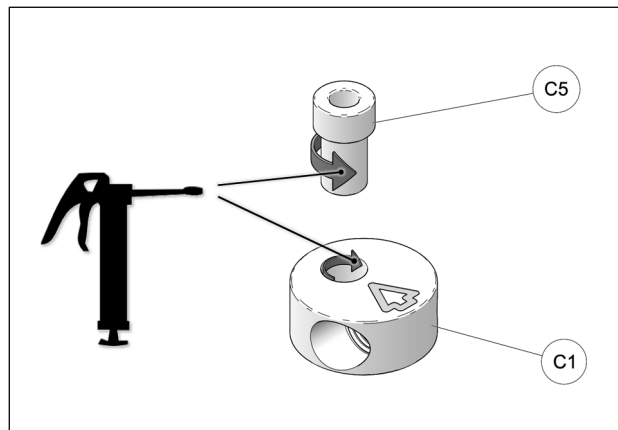

Fig. 16
11. At assembly, apply grease evenly all around step spacer bushing (C5) and in hole of aluminum disk (C1). See Fig. 16